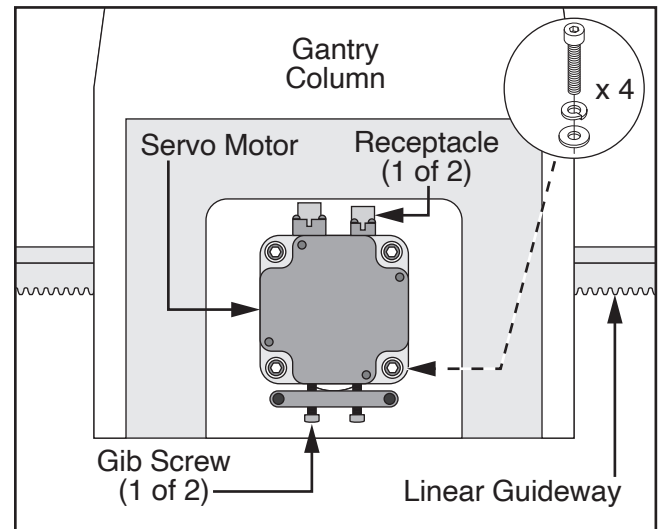

Figure 36. Servo motor installed on gantry.
3. Install (1) Y-Axis servo motor on either gantry column using (4) M8-1.25 x 24 cap screws, 8mm lock washers, and 8mm flat washers pre-installed on gantry column (see **Figure 36**). DO NOT fully tighten cap screws.